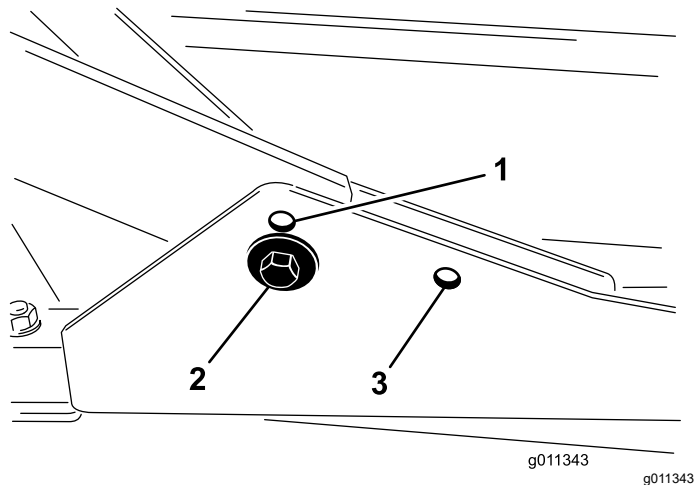

Figure 2
- For heights of cut in the 3/4 to 3 inch (2 to 7.6 cm) range, mount the front carrier frames in the lower front mounting holes (Figure 2).
- For heights of cut in the 2-1/2 to 4 inch (6.3 to 10 cm) range, mount the front carrier frames in the upper front mounting holes (Figure 2).
For all heights of cut, mount the rear cutting deck in the rear mounting holes (Figure 2).